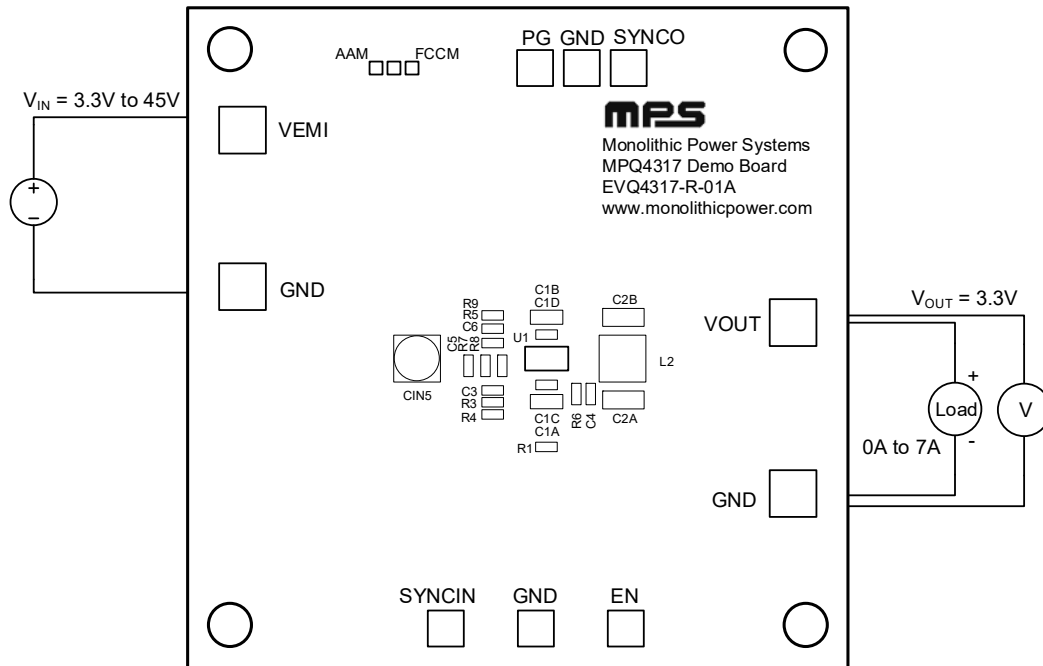

Figure 2: Measurement Equipment Set-Up
3. Connect the power supply terminals to (see Figure 2 on page 3):
4. Connect the load terminals to (see Figure 2 on page 3):
Figure 2 shows the measurement equipment set-up.